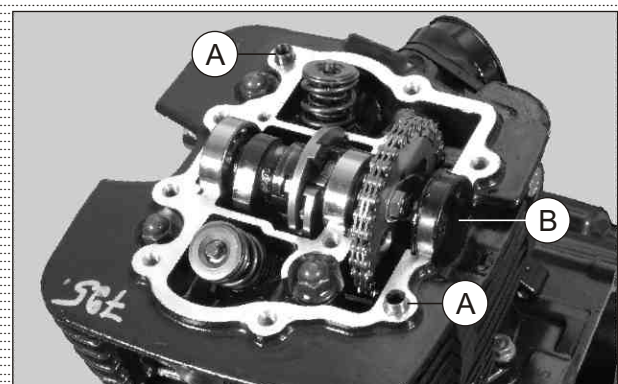

Fig. 3.73
- Take out pin cylinder head cover knock - 2nos (A). (Fig. 3.73)
- Take out plug cylinder head (B). (Fig. 3.73)